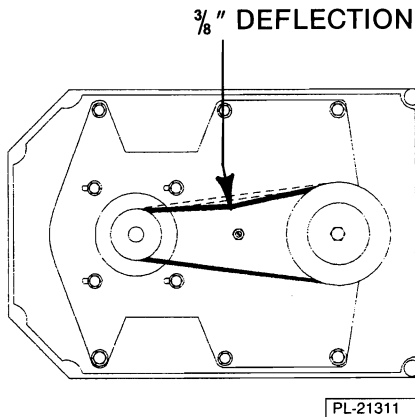

Fig. 10
- Test the tension by pressing the belts inwards with your thumb. About  $\frac{3}{8}$ " deflection is right, Fig. 10.